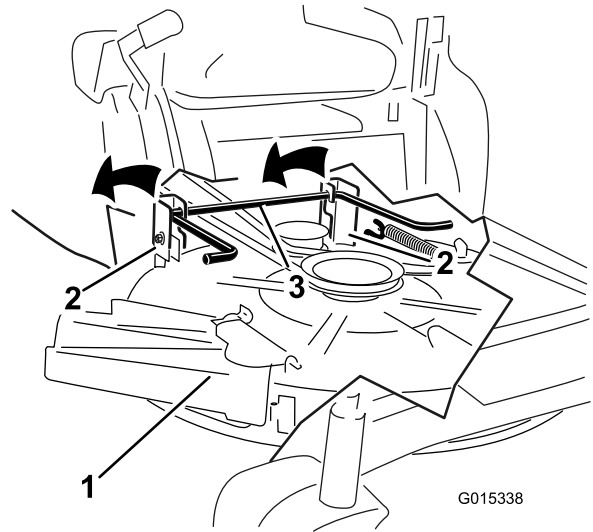

Figure 72
7. Lift the mower deck and hanger brackets clear of the rear lift rod and lower the mower carefully to the ground (Figure 72).
5. Lift the rear of the mower deck and guide the hanger brackets over the rear lift rod (Figure 72).